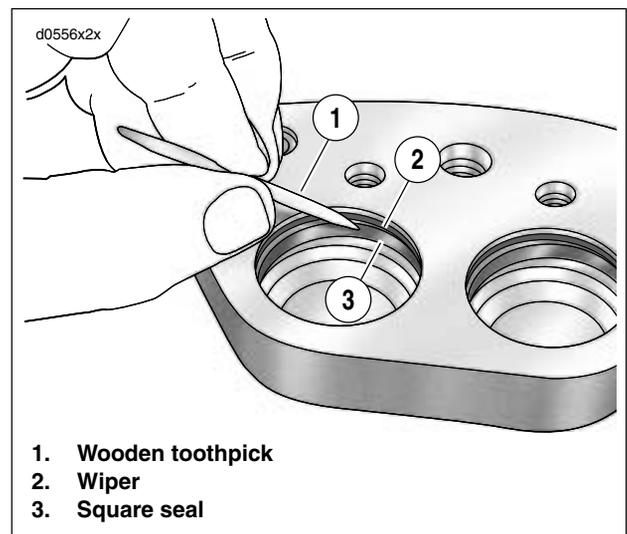

Figure 2-58. Wipers and Square Seals
7. See Figure 2-58. Using a wooden toothpick (1), remove wiper (2) and square seal (3) from each caliper bore.